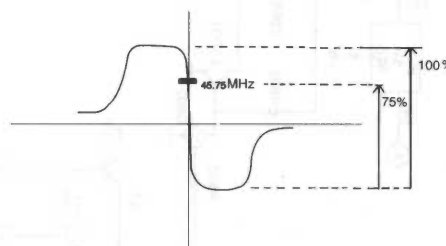

Figure 1
- 3) Adjust AFT coil (L102) so that the waveform on the alignment scope may appear as shown in figure 1.